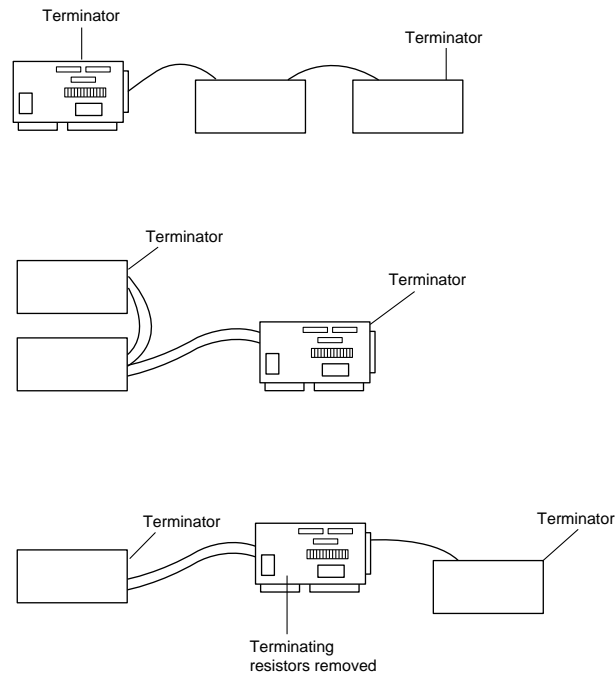

FIG. 17.10 Examples of various SCSI termination scenarios.
**Example Three: Internal and External SCSI Devices.** If you mix and match external as well as internal devices, follow the rules. The example shown in Figure 17.10 has an internal CD-ROM drive, terminated and set for SCSI ID 6; the external tape unit also is terminated, and we assign it SCSI ID 5. The SCSI adapter itself is set for ID 7 and, most importantly, its terminating resistor packs have been removed.